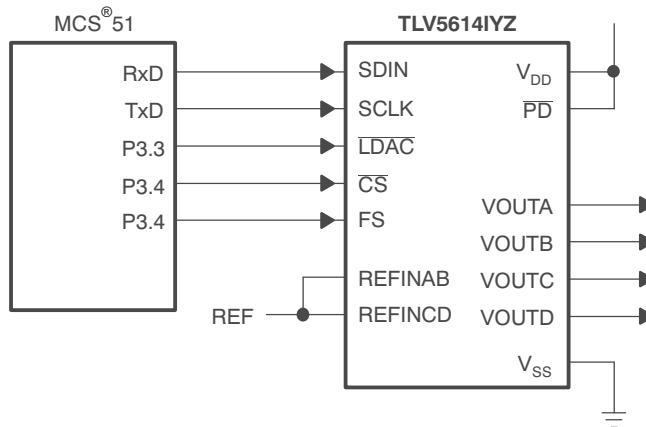

Figure 18. TLV5614IYZ Interfaced With MCS51
Figure 18 shows an example of how to connect the TLV5614IYZ to an MCS51 Microcontroller. The serial DAC input data and external control signals are sent via I/O Port 3 of the controller. The serial data is sent on the RxD line, with the serial clock output on the TxD line. Port 3 bits 3, 4, and 5 are configured as outputs to provide the DAC latch update (LDAC), chip select (CS) and frame sync (FS) signals for the TLV5614IYZ. The active low power-down pin (PD) of the TLV5614IYZ is pulled high to ensure that the DACs are enabled.